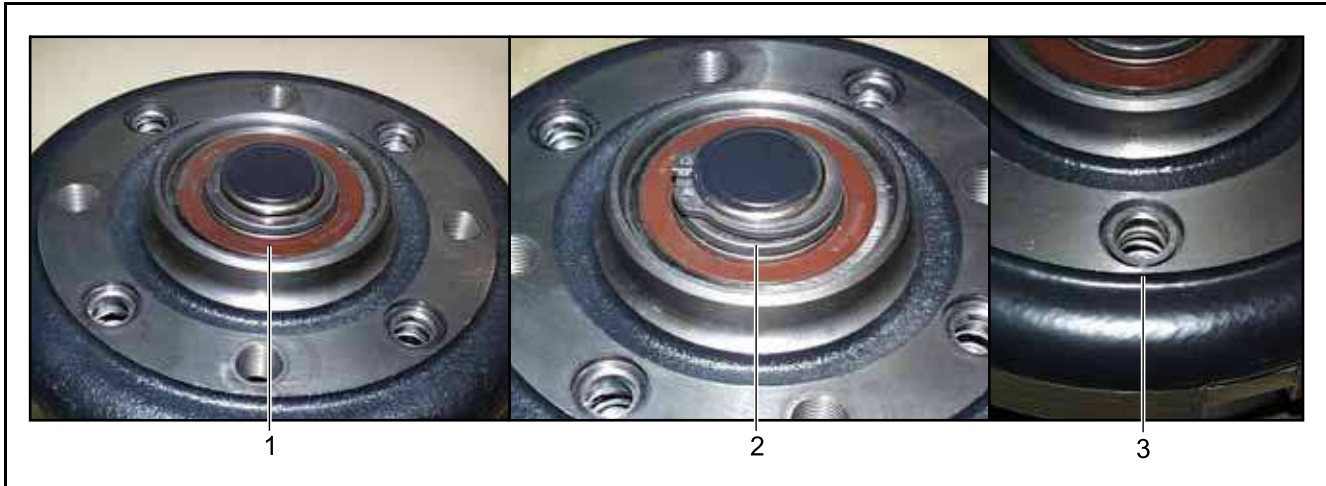

Fig. 10 (24060)
6. Place the axle spacer (1) onto the axle. Refer to Figure 10.
7. Install the retaining ring (2) to secure the assembly in position.
8. Place the spacers with C-bore (3) in the brake counterbored holes with the counterbored side of the spacers facing up.